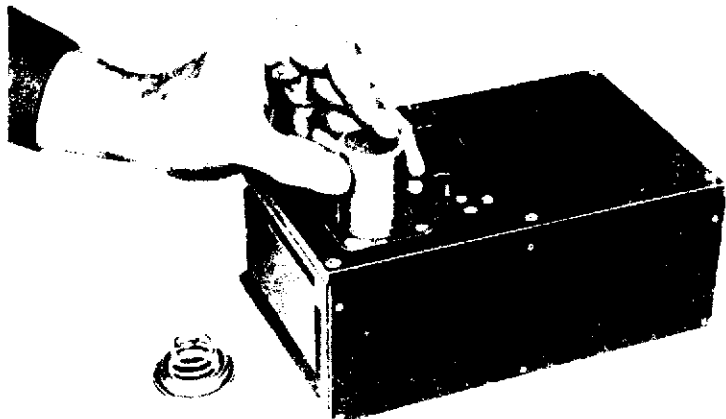

Fig. 5
(1) Remove the instrument from its haversack and lay it on its side with the controls uppermost. Unscrew and remove the appropriate coin-slotted cell cover.
(2) To remove the existing cell (if fitted), turn the instrument over so that the controls are facing downwards, give a gentle shake and the cell should fall out.
(3) Insert the new 1.5 volt cell with its brass cap (+) facing downwards into the battery compartment, as shown in fig. 5. Finally, replace the cell cover.